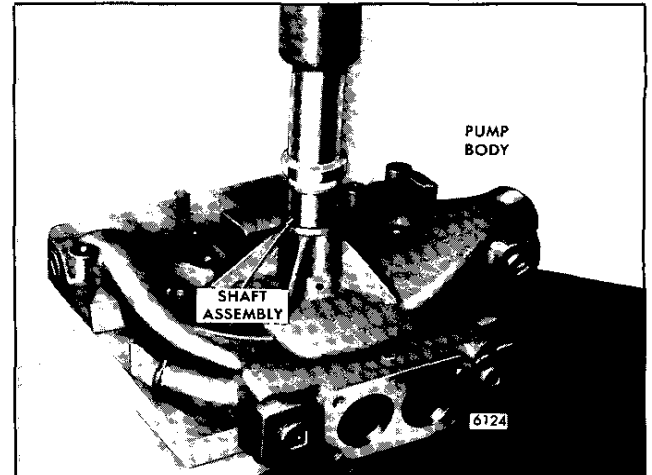

Fig. 7 - Installing Shaft and Bearing Assembly Using Tool J 29189-A
1. Use installer tool J 29189-A to apply pressure to the outer race of the bearing (Fig. 7). Press the shaft/bearing assembly into the pump body until the outer race of the bearing is flush with the outer face of the pump body. The tool will stop the bearing at the proper depth.